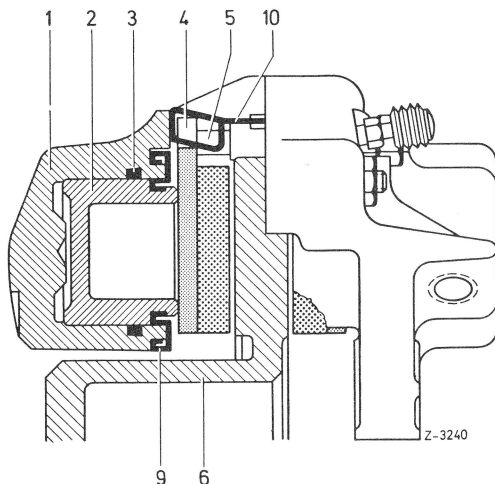

Fig. 8
**6** Remove piston seal (3) from grooves of cylinder bores (Fig. 8 and 9).